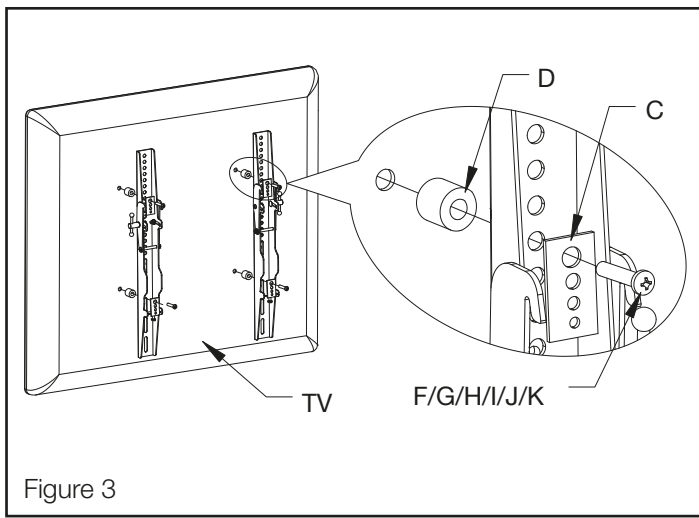

Figure 3
4. Gently put your mounting arms (M and N) on the back of the TV so that the mounting pattern holes are showing through the holes of the mounting arms (see Figure 3).
5. Using the correct mounting bolt size and length, insert these through the corresponding hole on the multi-sized washer (C) to attach mounting arms to the rear of the TV (see Figure 3). To avoid damaging TV, do not over tighten bolts.